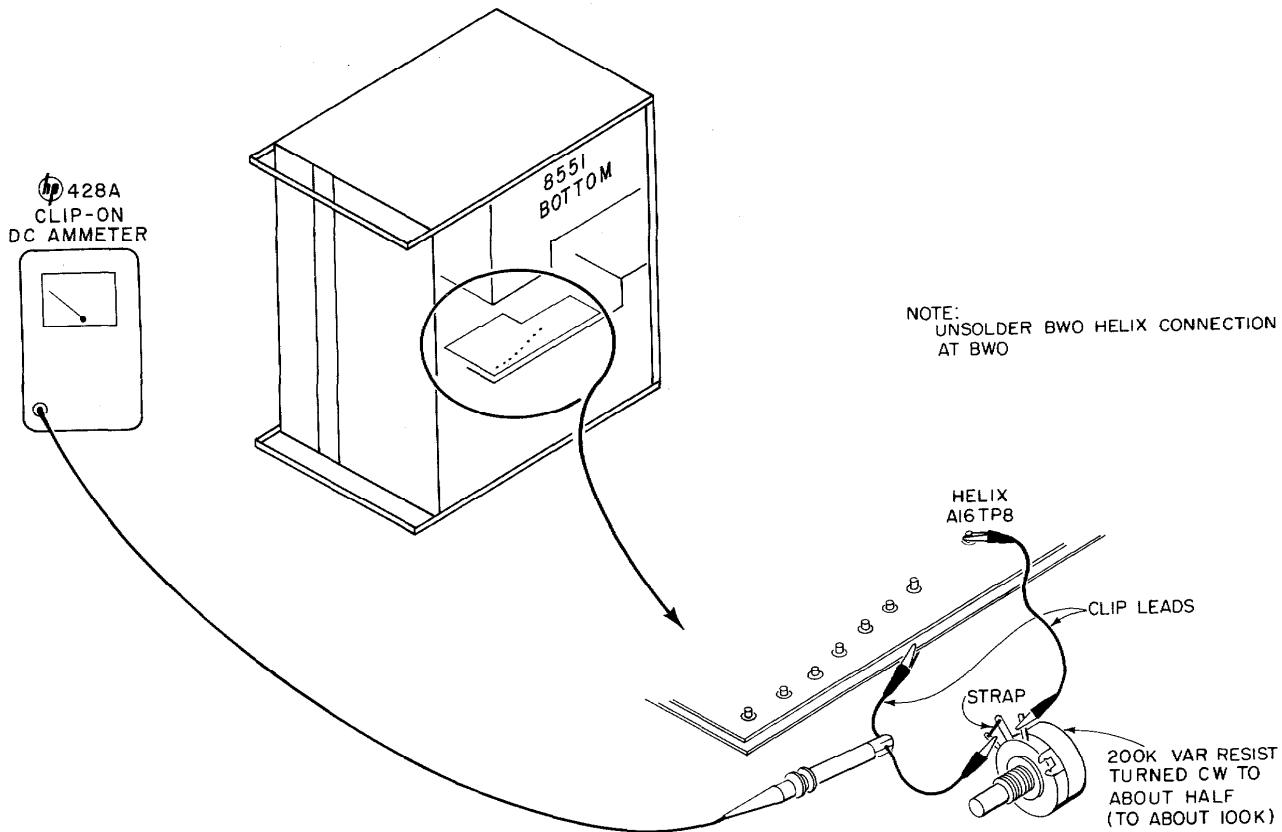

Figure 5-22. Setup for Checking Helix Overload Relay A16K4, 8551B
5-166. SETUP. See Figure 5-22.
c. Strap one end of the 200K variable resistor to the center terminal, as indicated in Figure 5-22. Set shaft clockwise to about 100K; check with ohmmeter.
- a. Locate relay A16K1. (See Figure 5-22.)